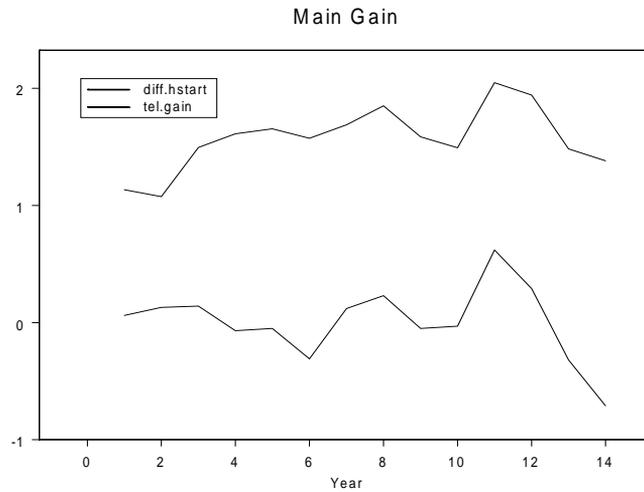

Figure 3.25: *Formatted plots of `tel.gain` and `diff.hstart`.*
- Now click the **Auto Legend** button  on the **Graph** toolbar. A legend is automatically created and placed on your graph. You can position the legend by selecting it (click just inside the border of the legend) and dragging it to the desired location. The resulting graph is shown in Figure 3.25.